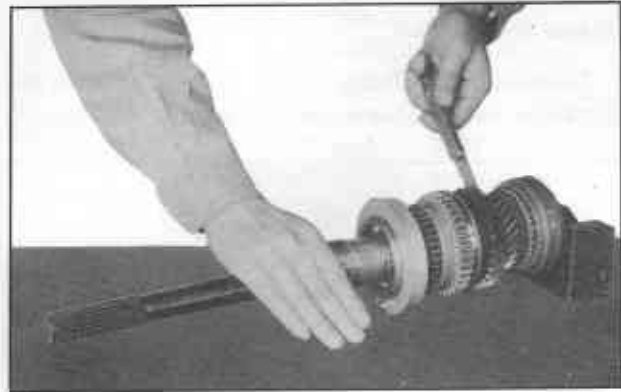

Fig. TM-33 Gear end play check
8. The end play of the gears should be checked as shown in Figure TM-33.